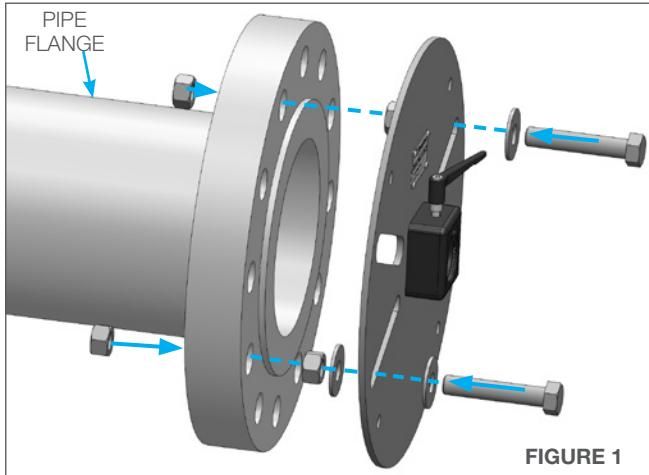

FIGURE 1
1. Attach the 4"-8" Flange Mount Plate to the pipe flange using the fasteners that were removed from the flange joint. The nuts shown between the flange and the Flange Mount Plate are to allow for drainage. Other spacer options are acceptable. (**Figure 1**)